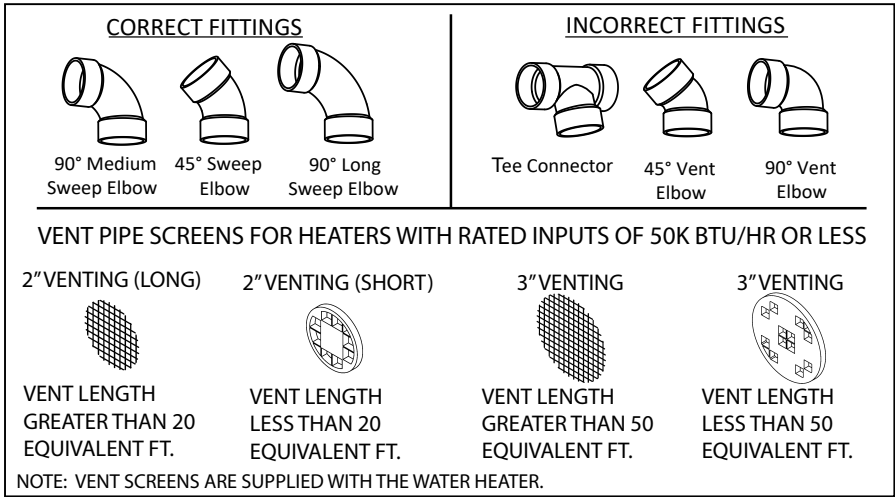

Figure 8 - Vent Termination Fittings
DO NOT use vent elbows in this vent pipe installation. See "Incorrect Fittings" in Figure 8.
2. Venting systems may use a maximum of five (5) 90° elbows.
3. Use proper screen termination (see Figure 8).